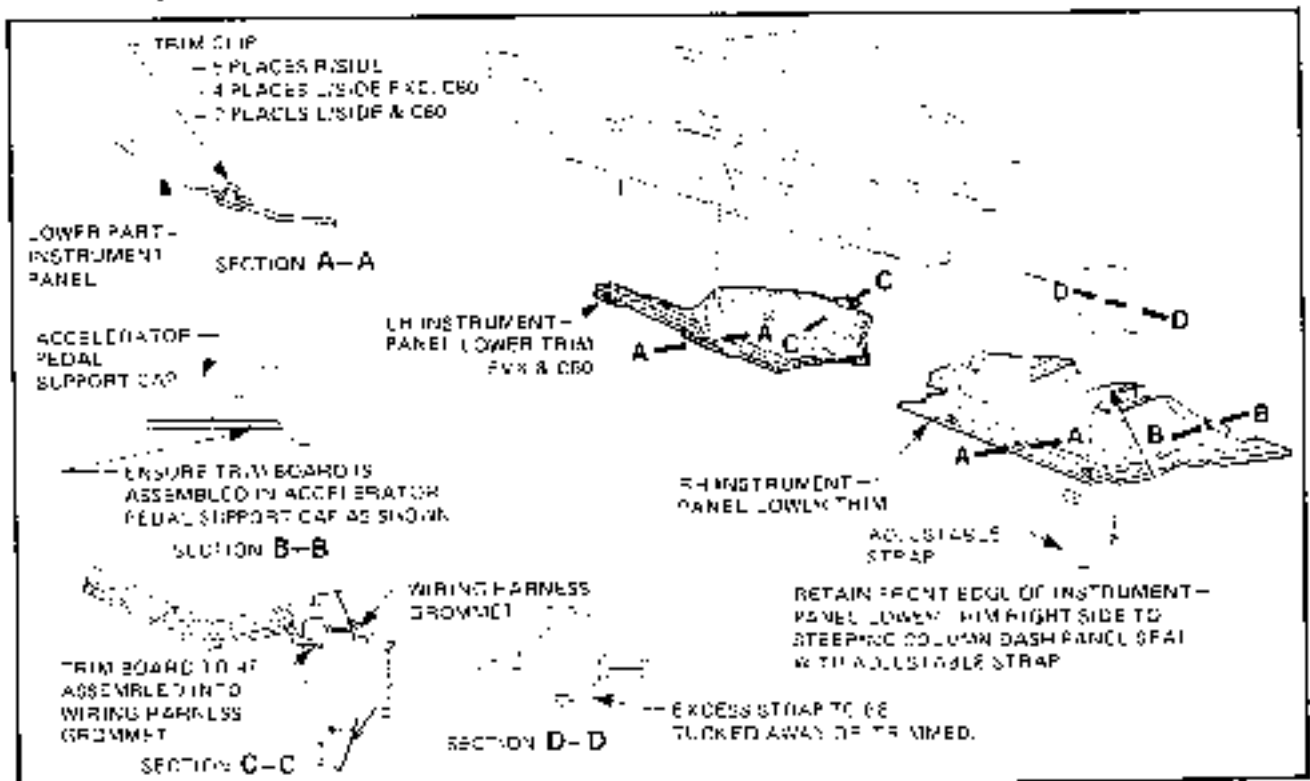

Figure 1A-8
1. From under instrument panel and using a fabricated trim clip removal tool (refer Special Tool Section) located directly under head of trim clip, carefully prise clips from attaching holes in instrument panel lower (refer Section A-A, Fig. 1A-8) removing trim.
NOTE: Removal of right hand lower trim necessitates disengagement of adjustable strap which partially secures trim to steering column (refer Section D-D, Fig. 1A-8)
Reverse removal operations ensuring that leading edge of left hand trim is correctly located beneath the dash panel bracket and into wiring harness grommet (refer Section C-C, Fig. 1A-8) and that the leading edge of the right hand trim is located in the accelerator pedal support cap, as illustrated in Section B-B, Fig. 1A-8.